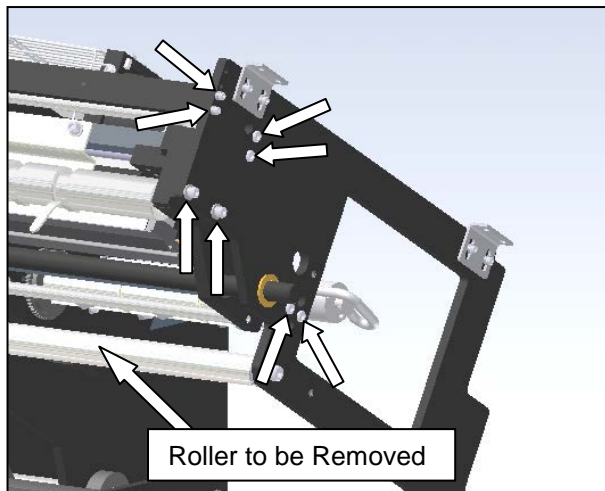

Figure 3-238. Screw Identification for Right Side Plate
5. Remove the eight screws identified in Figure 3-238. This will allow the right side cradle plate to rotate on the back flanged bushing. Gently slide the plate away from the machine, and turn the plate towards the rear so it is out of the way. This will also allow the roller identified to be removed.